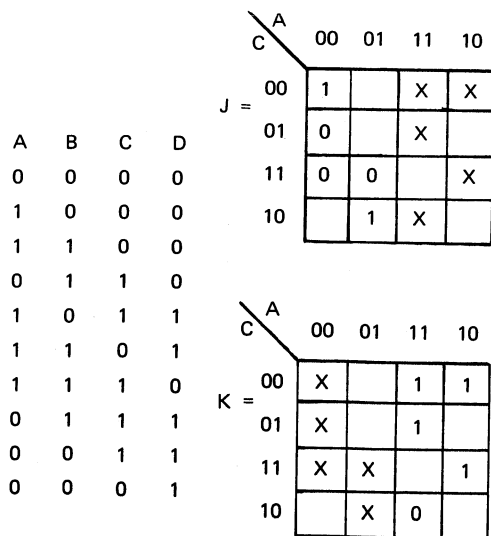

Fig. 16. Karnaugh maps used for implementing the mod-10 counter of Fig. 15.
the one connected to the  $\overline{JK}$  inputs). It is then possible to fill in a Karnaugh map for the J and  $\overline{K}$  inputs that will force the 375 along this path. Actually, not all of the squares need be filled in. Since ② is not a state in the mod-10 loop it need not be considered in the feedback circuits. In Fig. 16 all of the squares pertaining to states not in the mod-10 loop have been shaded. Likewise there are several squares that will have no effect on whether the flip-flop receives a "zero" or a "one". Suppose the register contains all "zeros", 0000, and according to the state diagram the next clock pulse should shift a "one" into the first flip-flop, 1000. An examination of the truth table in Fig. 3 reveals there are two ways to shift in a "one". The first is to set in a "one" by putting 11 on the JK inputs. The other is to cause the flip-flop to toggle by placing 10 on the JK inputs. (Since the previous state was a "zero", toggling will result in a "one".) Thus, either a 11 or a 10 will cause the flip-flop to load a "one". Obviously then, the state of the J input is all that matters, since  $\overline{K}$  could be either "zero" or "one" with the same result. Thus, an X ("don't care") has been placed in the 0000 square of the  $\overline{K}$  Karnaugh map.